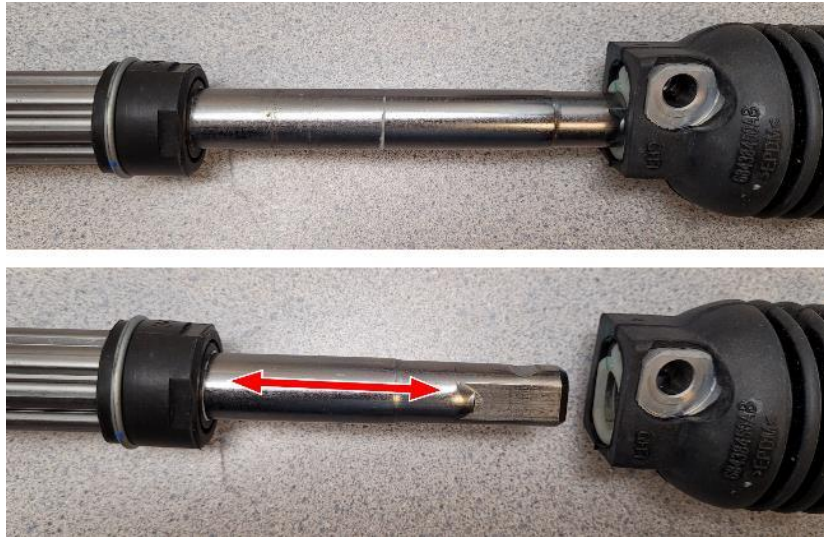

Figure 23 – Slide Intermediate Shaft In - Out for Service
- a) Grasp the I-shaft near the U-joint coupling then slide the I-shaft back into itself releasing it from the U-joint coupling (Figure 23).
- f) Slide the I-shaft back into the U-joint coupling inserting the I-shaft fully into the U-joint coupling as far as it will go. The white plastic clip will act as a stop (Figure 23).
- Grasp the I-shaft near the U-joint coupling then slide the I-shaft back into itself releasing it from the U-joint coupling (Figure 23).
- Slide the I-shaft back into the U-joint coupling inserting the I-shaft fully into the U-joint coupling as far as it will go. The white plastic clip will act as a stop (Figure 23).